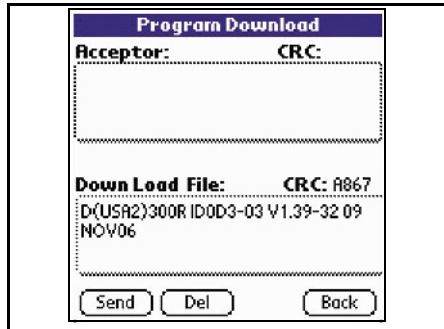

Figure 11 Program Download Screen
2. The Program Download Screen depicted in Figure 11 will appear.